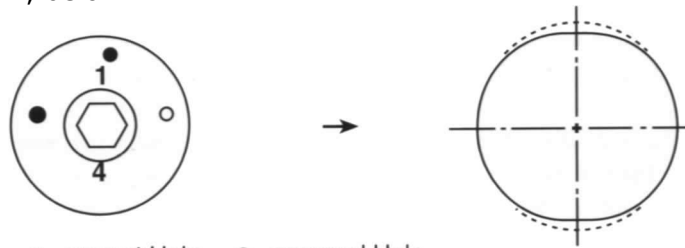

Fig. 4. ○ - vacant Hole ● - screwed Hole
1. Before turning, it is necessary to drill one more mounting hole on the workpiece, at  $90^\circ$  to one of the existing ones, and then mount the socket to the workpiece with the holes configured as in Fig. 4, below.
3. Before turning the opposite side of the pair, rotate the ball drive in the socket by  $180^\circ$ , such that you relocate from side '1' to side '4', fig. 4.
3. Locate the ball drive in the socket on side '1', Fig.4. Turn the fifth side.